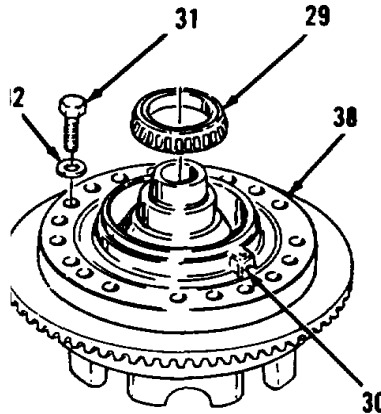
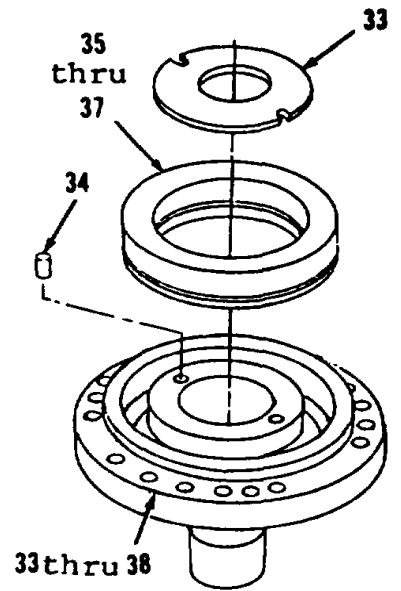
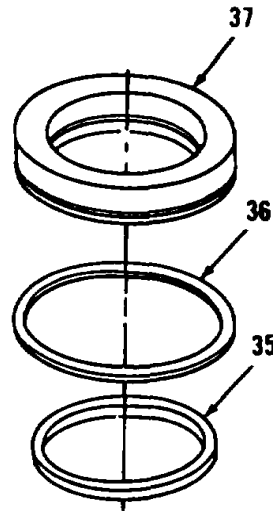

Figure 14-130.
Figure 14-131.
Figure 14-132.
15. Using puller attachment, puller group, two legs, step plate, four step plates, two nuts and pump group, remove cone bearing (29, Figure 14-130).
16. Check for presence of ball (30) in housing (38). If ball is present, do not remove. If ball is missing, make note to install new ball (30) during assembly.
17. Remove 18 bolts (31) and washers (32) from housing (38).
18. Remove items 33 thru 38 as an assembly (Figure 14-131) and turn upside down.
19. Remove washer (33), two dowels (34) and items 35 thru 37 as an assembly from housing (38).
20. Remove and discard seals (35 and 36) from piston (37, Figure 14-132).